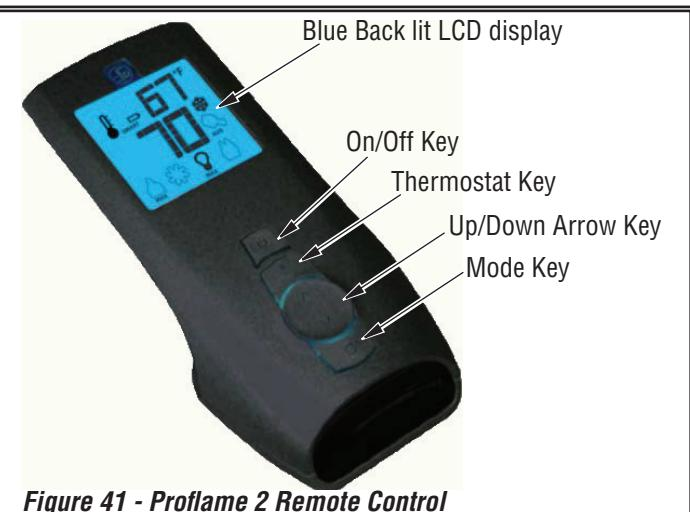
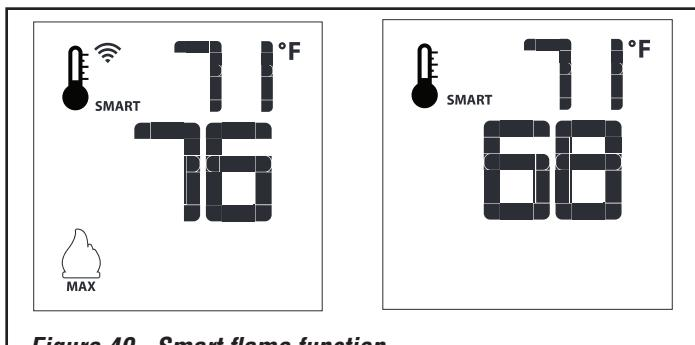
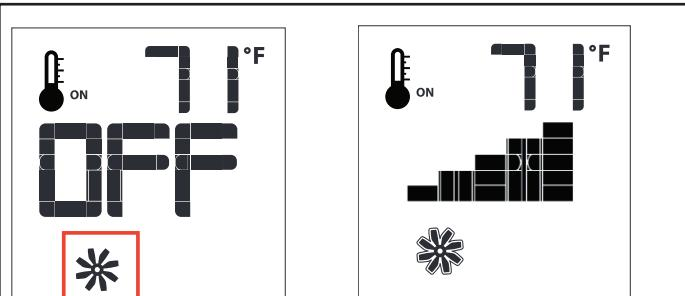

Figure 41 - Proflame 2 Remote Control
Figure 49 - Smart flame function
Figure 52- Blower Speed Control
The Proflame 2 Remote control uses a streamlined design with a simple button layout and informative LCD display. A Mode Key is provided to index between the features and a Thermostat Key is used to turn On/Off or index through Thermostat functions, see Figure 41 and 42.
The Smart Thermostat function adjusts the flame height in accordance to the difference between the set point temperature and the actual room temperatures. As the room temperature gets closer to the set point the Smart Function will modulate the flame down. To activate the function, press the Thermostat Key, see **Figure 41**, page 46 until the word "SMART" appears to the right of the temperature bulb graphic, see **Figure 49**.
The fireplace is equipped with optional hot air circulating blowers. The speed of the blowers can be controlled by the Proflame system. The blower speed can be adjusted through six (6) speeds. To activate this function use the Mode Key, see **Figures 41 and 42**, page 46, to index to the blower control icon, see **Figure 52**. Use the